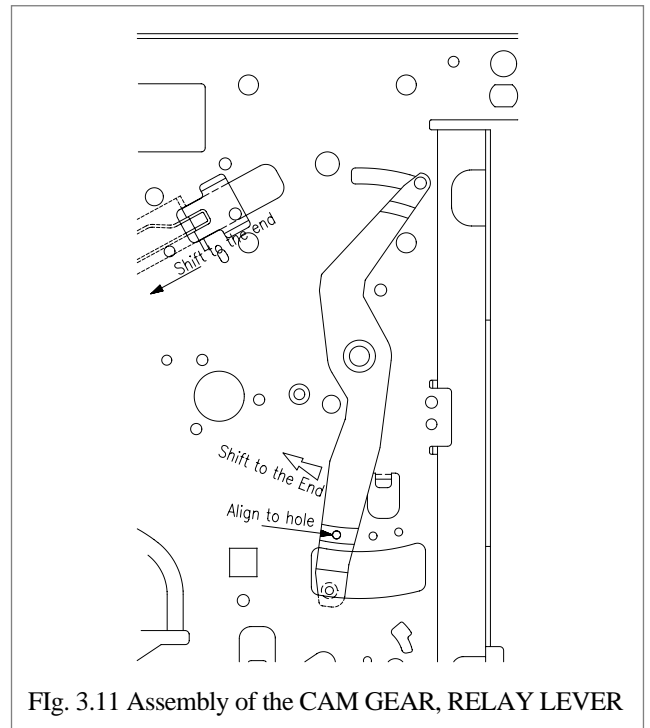
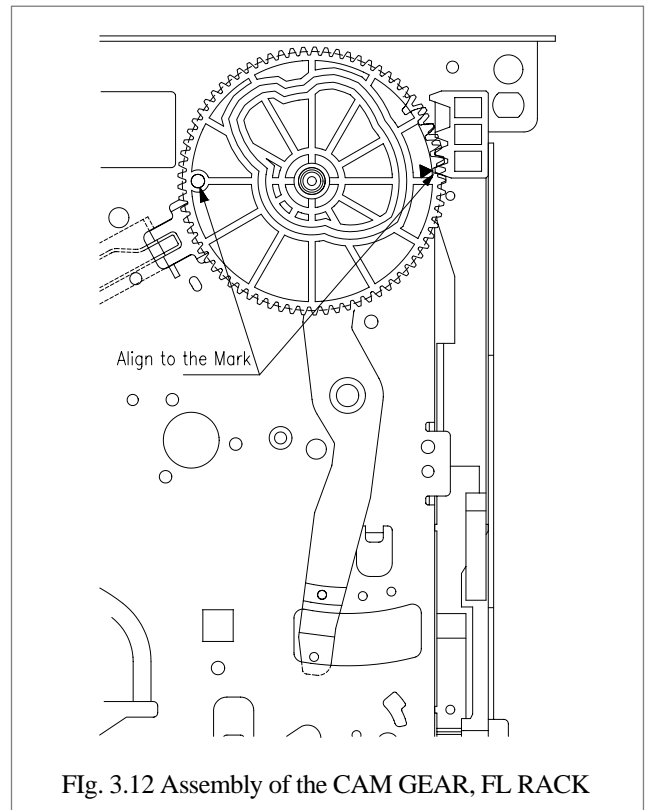

Fig. 3.11 Assembly of the CAM GEAR, RELAY LEVER
Fig. 3.12 Assembly of the CAM GEAR, FL RACK
- When reassembling, refer to Fig. 3.11, Fig. 3.12 and chapter 4.